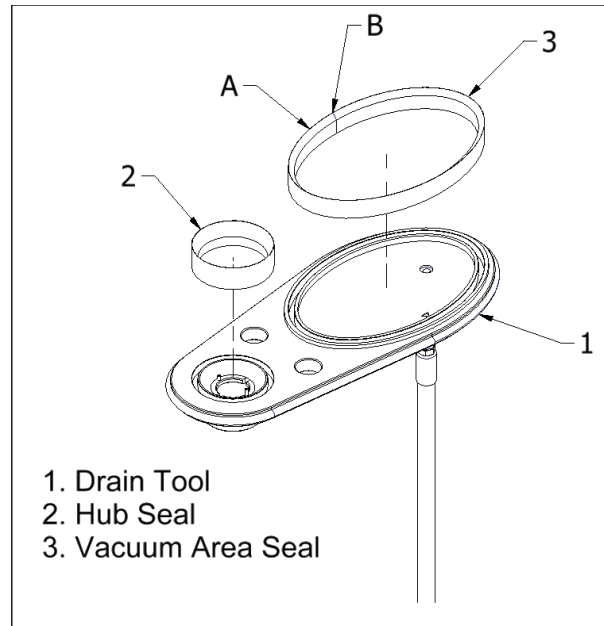

Figure 3-4 Changing Drain Tool Seals
The Drain Tools use two functional seals. The Hub Seal, (see Figure 3-4) creates a seal around the Fuel Probe. The Vacuum Area Seal (3), creates the vacuum area that allows the Drain Tool to adhere to the airframe. The Oval and Elongated Drain Tools use either the Flat Vacuum Area Seal or the Contoured Vacuum Area Seal, depending on the surface profile. Section 1.4 suggests which seal should be used for a specific airframe.
To change either the Vacuum Seal or the Hub Seal, follow the steps described below. See Figure 3-4.